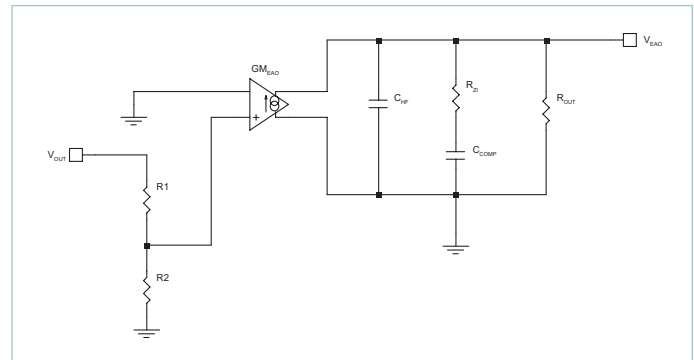

Figure 56 — PI354x-00 Error Amplifier Model
The small signal model of the error amplifier and compensator is shown in Figure 56. The error amplifier is a trans-conductance amplifier (TCA). The transfer function is shown in Equation (6), where in this example $R1 = 2.3k\Omega$, $R2 = 1k\Omega$, $GM_{EAO} = 5.1mS$, $R_{OUT} = 1Meg$, $C_{HF} = 56pF$, $C_{COMP} = 4.7nF$ and $R_{Z1} = 5k\Omega$. Here it is important to note that the external components are C_{COMP} , $R1$ and $R2$. The other components are internal to each specific model. See the data tables section "Soft Start, Tracking And Error Amplifier" for details.